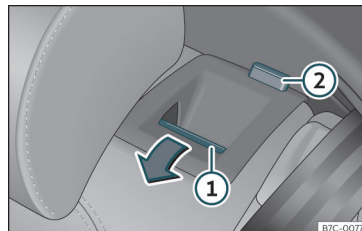

Fig. 106 Rear seat: folding the backrest.
- Press the unlock button»» **Fig. 106** ① forwards and at the same time fold the backrest down. The rear seat backrest is not engaged when the red marking of the button ② is visible.
The rear seat backrest is not engaged when the red marking of the button  **Fig. 106**  is visible.